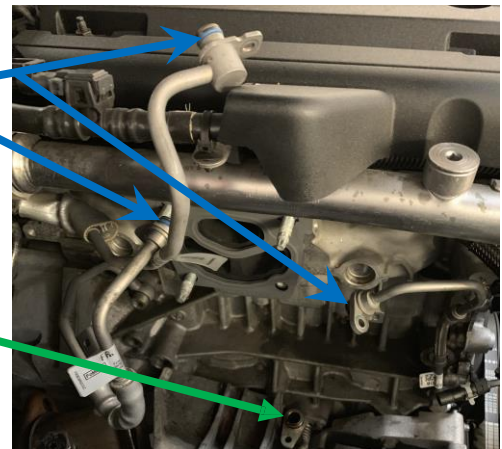

Fig. 17
3. Repeat process on all remaining connections. See Fig. 17 for proper O-ring part number identification.